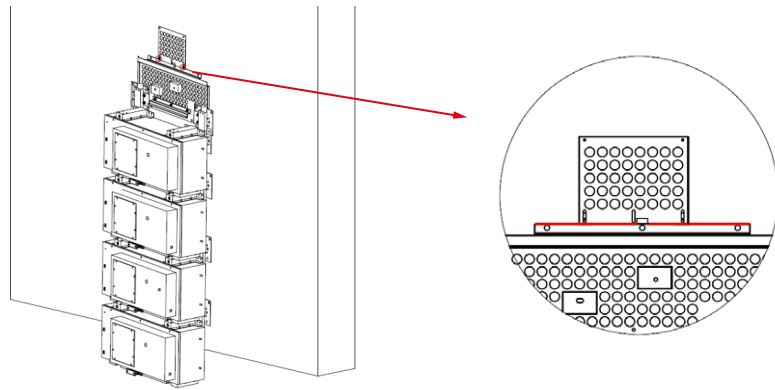

Figure 19 Installation of the Bracket A of the Inverter
Step 10 Please remove the nuts from the rear bracket of HV50056 and fix the bracket A of the inverter on the rear bracket of HV50056 with the flange nuts, as shown in Figure 19.